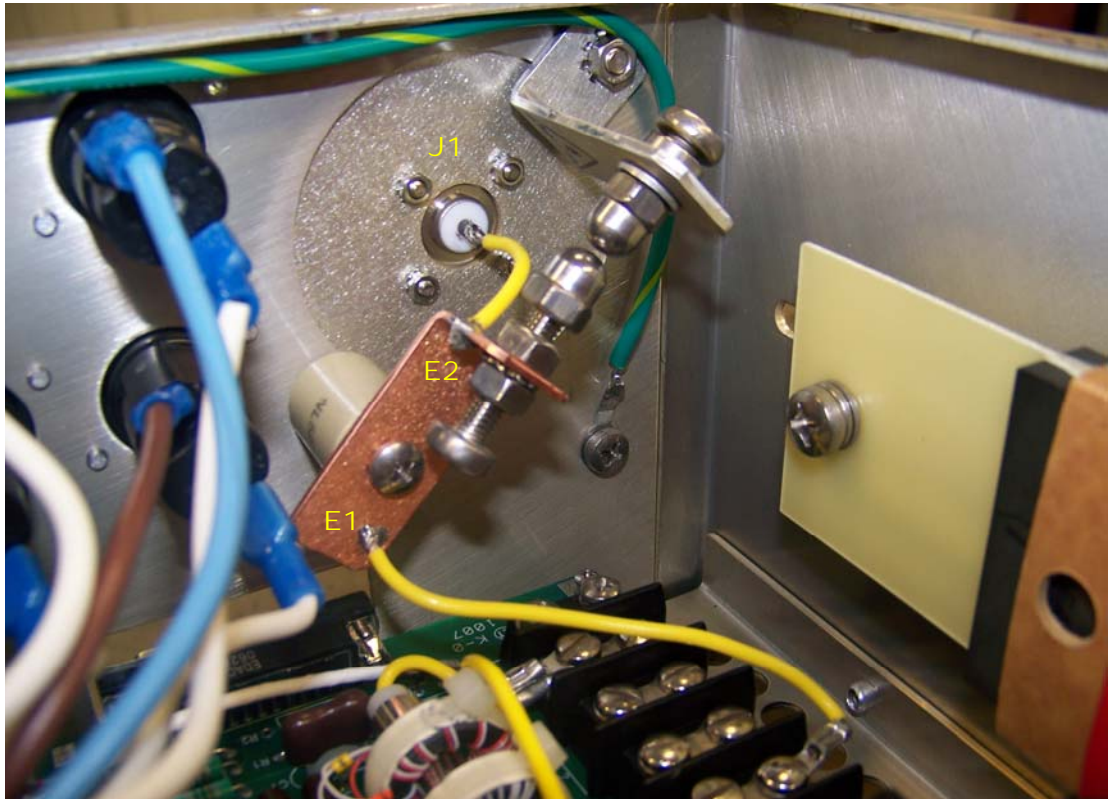

Figure 2: Spark gap assembly location
- (c) Remove two M5 screws on the outside plate of E7 RF output connector. Install the spark gap assembly (Nautel Part # 197-8067-01 or -02) as shown in Figure 2. Nautel ships the spark gap assembly pre-assembled (see Figure 4 or 5). Secure the assembly to the ceramic pillar using an HF11 #10 screw with an HAB26 external washer on the outside plate. Install an HMSP31 M5 screw to the outside plate and attach to the other side of the spark gap assembly using the nut and external washer removed earlier (see Figure 2). Tighten hardware and set the spark gap to 0.030 inches. Solder the yellow, teflon wire to RF output connector J1.